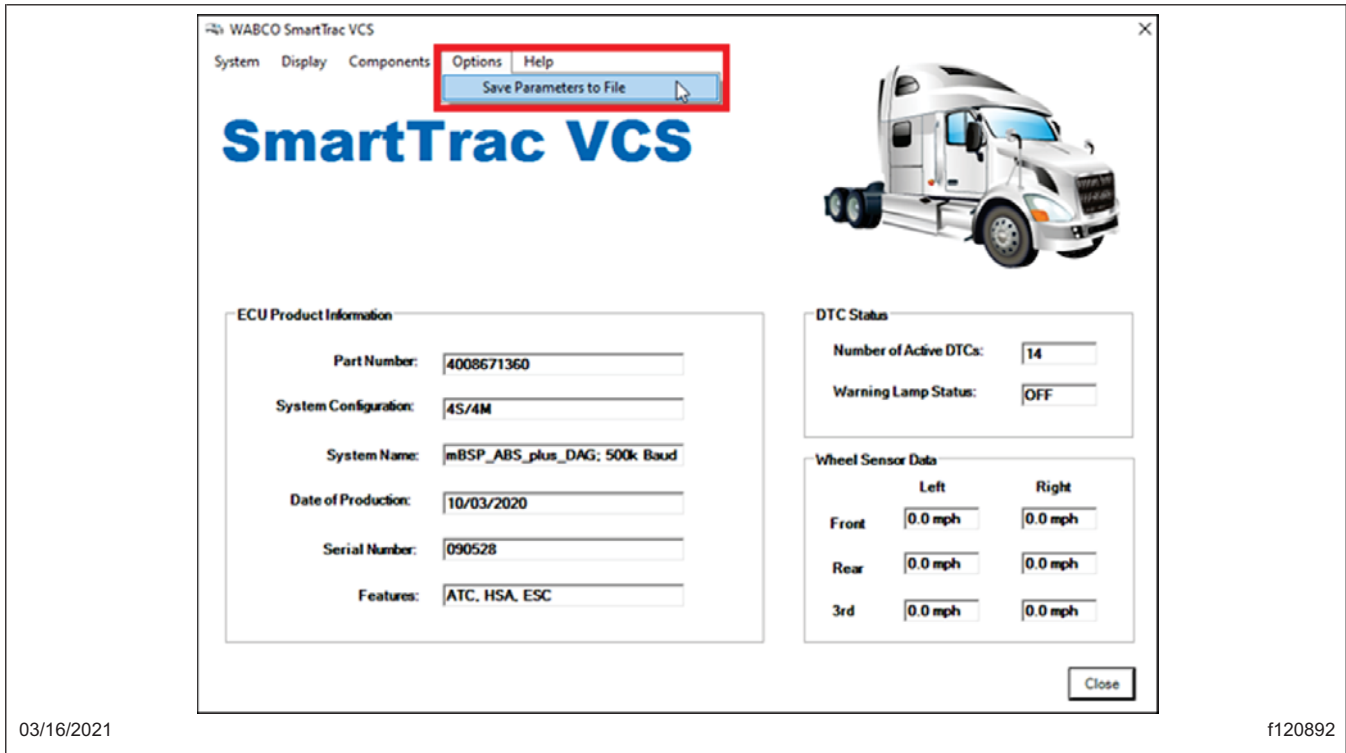

Fig. 32, Choosing the Install Location
19. Go to the 'Options' menu and select 'Save Parameters to File.' See Fig. 32.